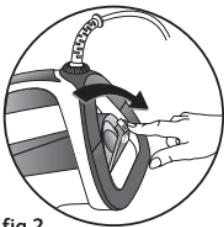

fig.2
- To open the flap of the water tank, push the button – fig.2.